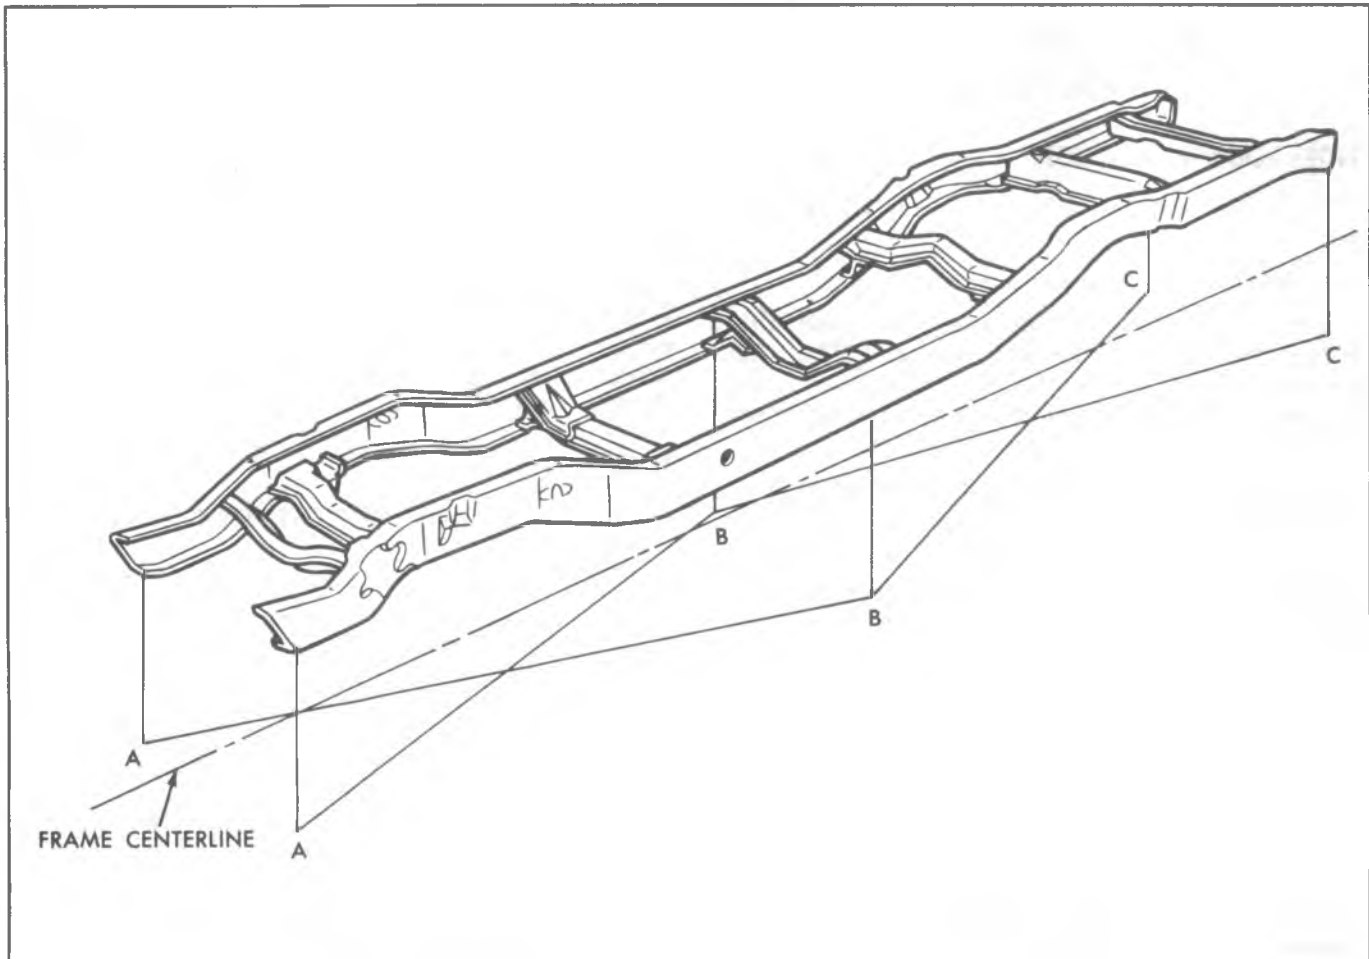

Fig. 2A-1--Frame Horizontal Checking--Typical
4. Obtain vertical dimensions and compare the differences between these dimensions with the dimensions as shown in Fig. 2A-3 or 2A-4.
Vertical dimensions are checked with a tramming bar from indicated points on the frame (Figs. 2A-2 and 2A-4). For example, if the tram bar is set at point B with a vertical pointer length of 8-1/4 in. (206 mm), and at point E with a vertical pointer length of 5-1/4 in. (131 mm) (a height difference of 3 in. (75 mm), the tram bar should be parallel with the frame. If the area is twisted or misaligned in any way, tram bar will not be parallel. Placing the tram bar vertical pointers on opposite sides of the frame side rail is preferable in that frame twist will show up during this vertical check. Fig. 2A-2 and 2A-4 show typical checking points, with dimensions for various frames shown in Fig. 2A-3.